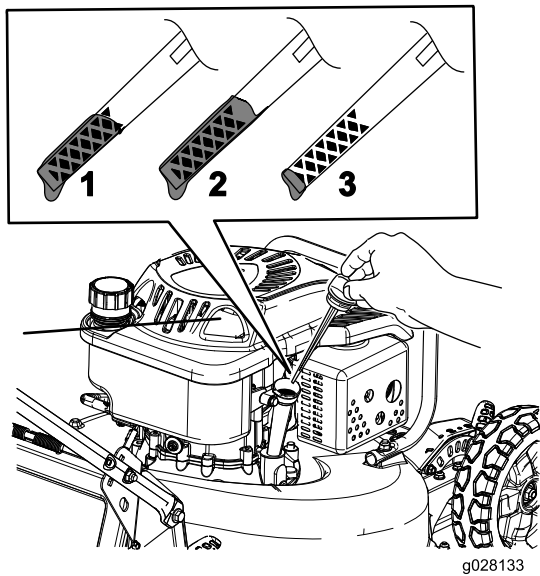

Figure 23
9. Remove the dipstick and read the oil level on the dipstick (Figure 23).